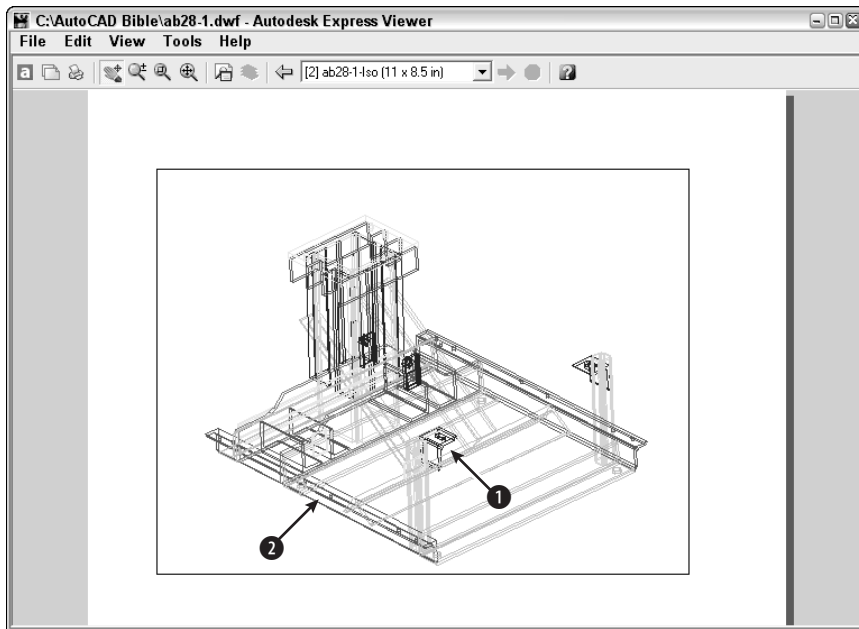

Figure 28-20: The DWF file as seen in Autodesk Express Viewer
2. Autodesk Express Viewer opens automatically and displays the DWF file created in the previous Step-by-Step exercise. From the drop-down list on the Autodesk Express Viewer toolbar, choose the second sheet, labeled (2)ab28-1-Iso (11x8.5 in), as shown in Figure 28-20.
3. Press Ctrl and click ❶ in Figure 28-20. The text shown in Figure 28-21 opens in a new Internet Explorer window. (You may have to minimize Autodesk Express Viewer to see the text.) This comes from an Excel spreadsheet saved in text format.
5. Press Ctrl and click **2** in Figure 28-20. You see the horizontal angle in a new Internet Explorer window.